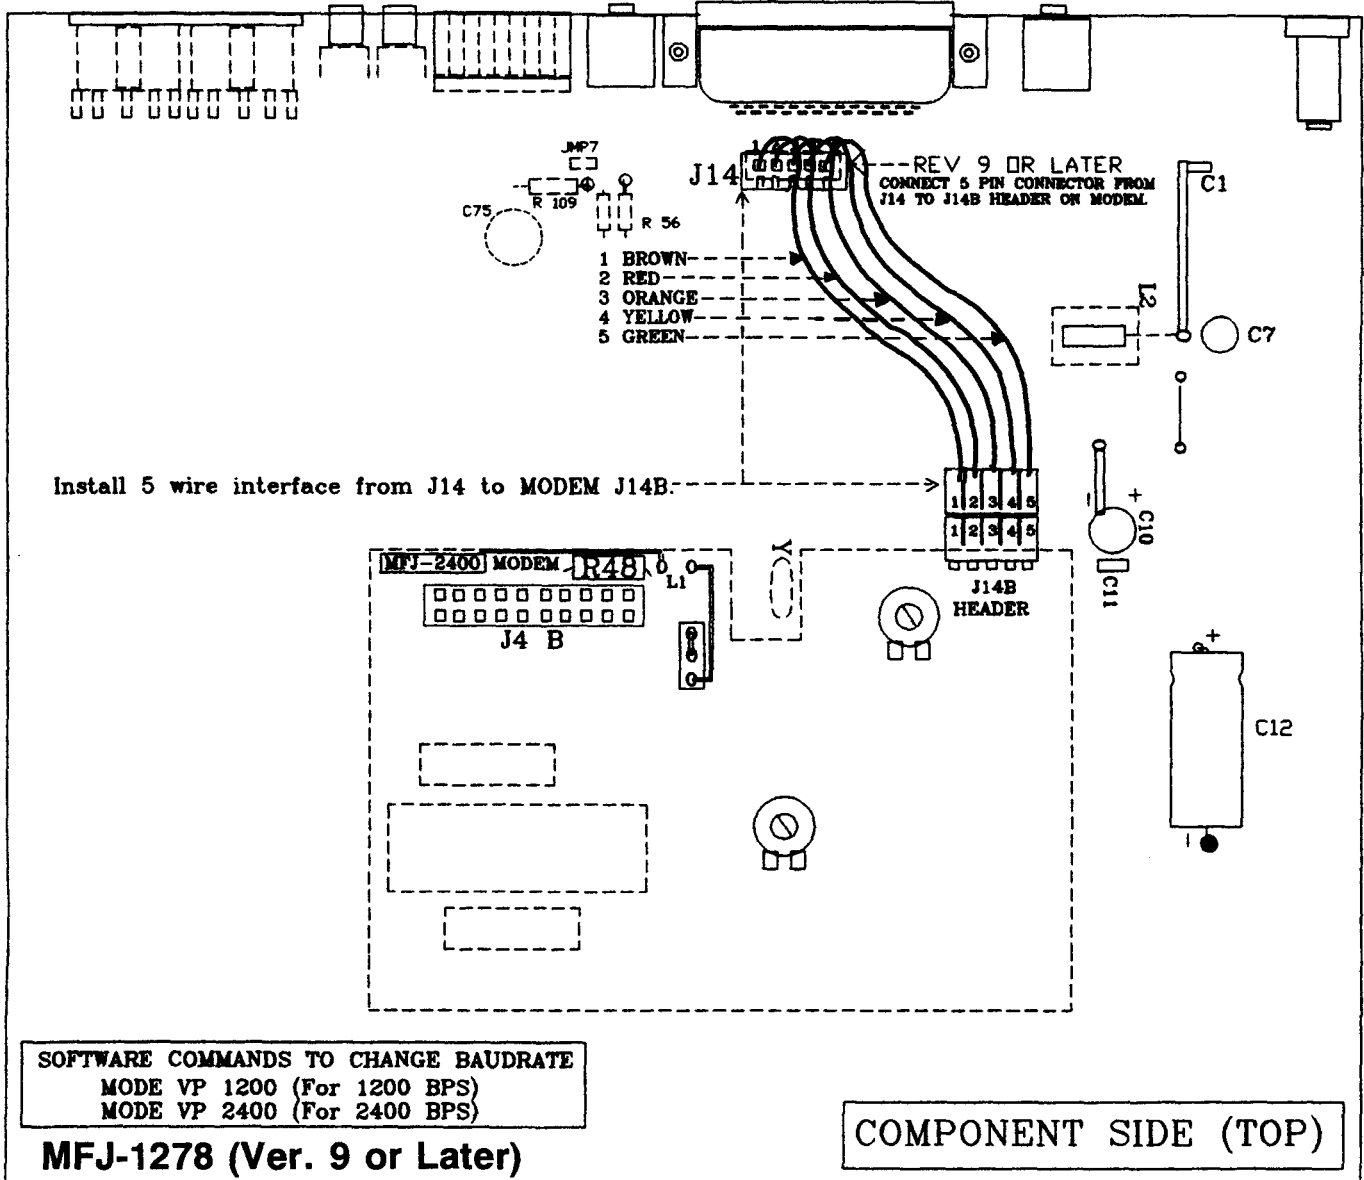

FIGURE 5
Locate the illustration which shows the MFJ-1278, Rev.9 installation (FIGURE 5). Place this drawing nearby to use with the 2400 BPS installation in the MFJ-1278.
**A: Install** the Modem Board: Refer to FIGURE 5
Locate the five (5) wire I/O interface fitted with a connector at each end (wires are 5 inches in length, approximately). With the face of the controller towards you, place one of the five (5) pin connectors on the five (5) pins marked J14, adjacent to C99. Install the connector on J14 so that the wires are going toward the rear of the MFJ-1278. If properly installed, the brown wire will be on the left and the green will on the the right (with the MFJ1278 pointing toward you). Loop the other end of the 5-pin jumper cable over or around J14 and bring it toward the modem board. Connect the 5-pin plug to the male 5 pin header (J14B) on the modem board. (See FIGURE 5).
##### A. INSTALLATION OF THE 20 PIN HEADER: Refer to FIGURE 5
Install the connector: on J14 so that the wires are going toward the rear of the MFJ-1270C, MFJ-1276, or MFJ-1278B. If properly installed, the brown wire will be on the left and the green wire will be on the right(looking from the front). Loop the other end of the 5-pin jumper cable over or around J14 and bring it toward the MFJ-2400 board. Connect the 5-pin plug to the male 5-pin header(J14B) on the modem board. (See FIGURE 5).